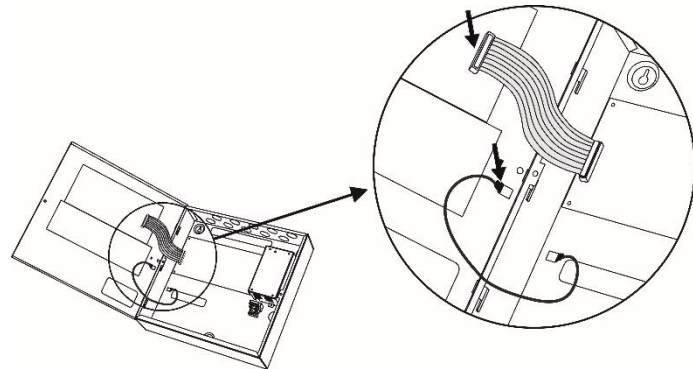

Figure 3
- Open the front cover and disconnect the flat indication cable and the earthing point (Figure 3).
- Connect back the flat cable for the indication and the earthing point (Figure 3). Observe the connection of the indication cable to be set stable on place. The unstable connection may cause malfunctioning of the panel.